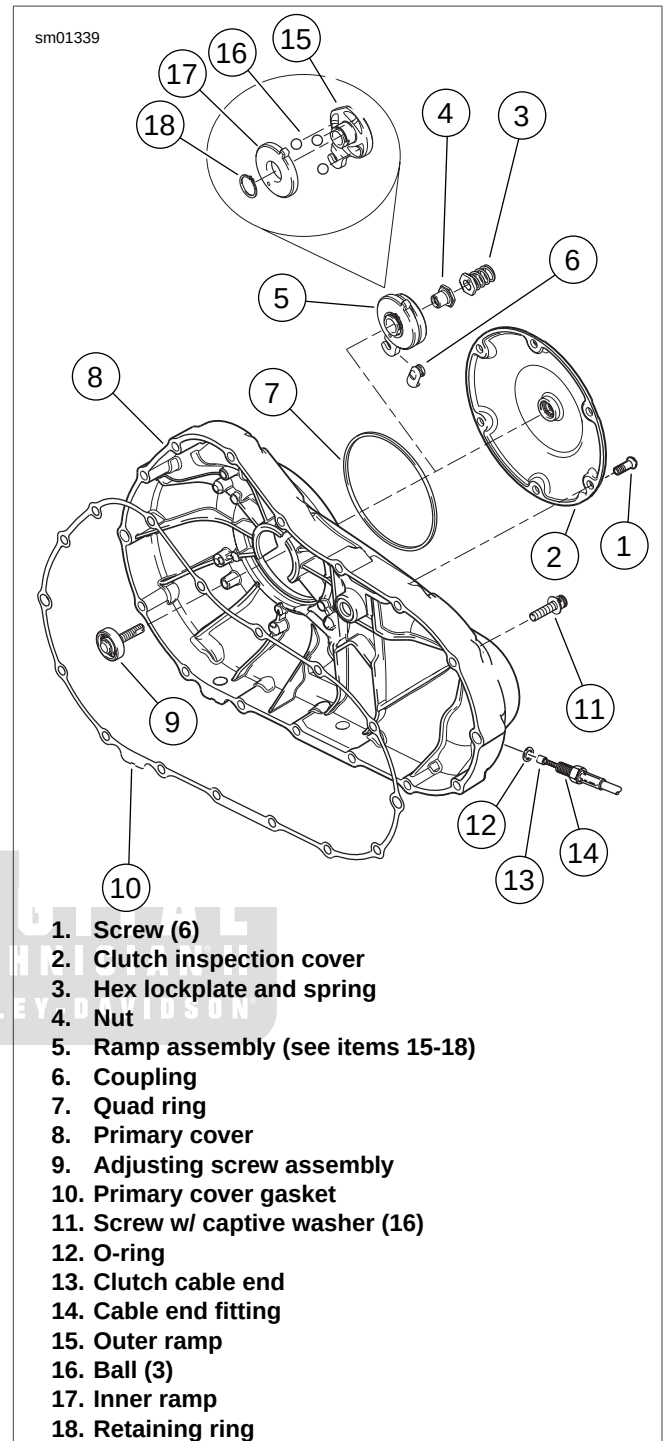
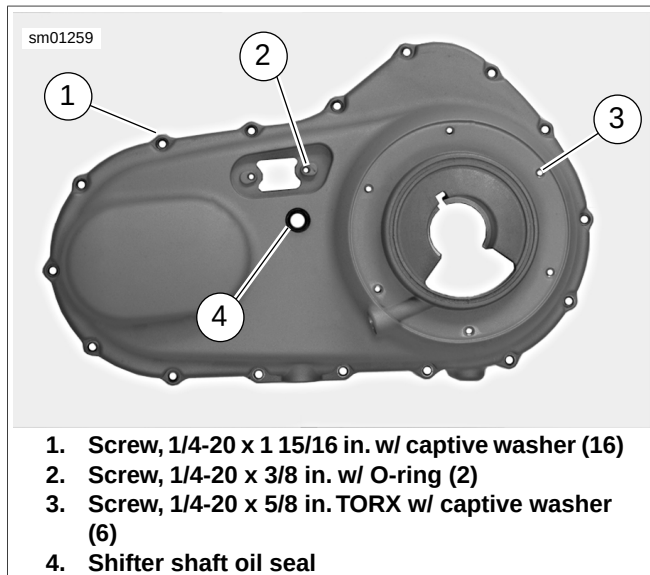

Figure 5-3. Clutch Release Mechanism and Primary Cover
Figure 5-4. Outer Primary Cover
10. See Figure 5-3. Remove six screws (1) and clutch inspection cover (2). Remove quad ring (7) from groove in primary cover (8). Discard quad ring.
11. Slide hex lockplate and attached spring (3) from flats of adjusting screw (9).
12. Turn adjusting screw clockwise to release ramp assembly (5) and coupling mechanism (6). As the adjusting screw is turned, ramp assembly moves forward. Remove nut (4) from end of adjusting screw.
14. Turn cable end fitting (14) counterclockwise to remove clutch cable lower section from primary cover. Remove and discard o-ring (12) from cable end fitting.
15. Remove sixteen screws with captive washers (11) securing primary cover to engine crankcase. Remove cover and gasket (10). Discard gasket.
16. See Figure 5-4. Remove and discard shifter shaft oil seal (4).
1. See Figure 5-4. Install **new** shifter shaft oil seal (4).
2. See Figure 5-3. Install **new** gasket (10) on primary cover (8).